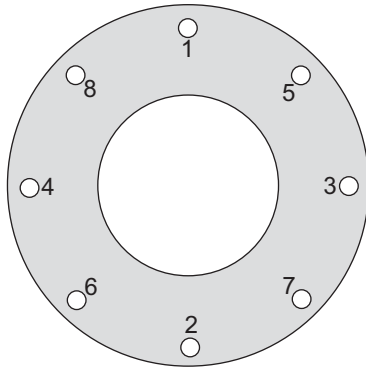
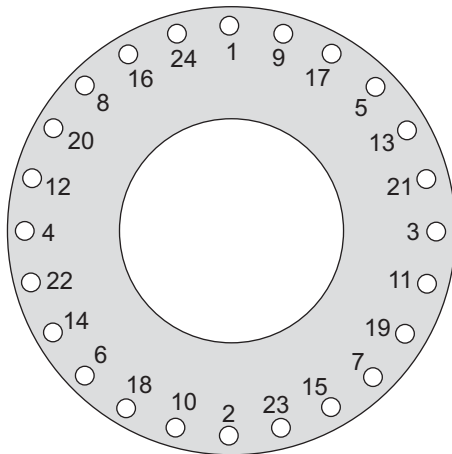

Fig. 5-1 Tighten bolts diagonally / 8 bolts, spacing 45°
Fig. 5-5 Tighten bolts diagonally / 24 bolts, spacing 15°
- For the correct order, see Fig. 5-1 to Fig. 5-5 .